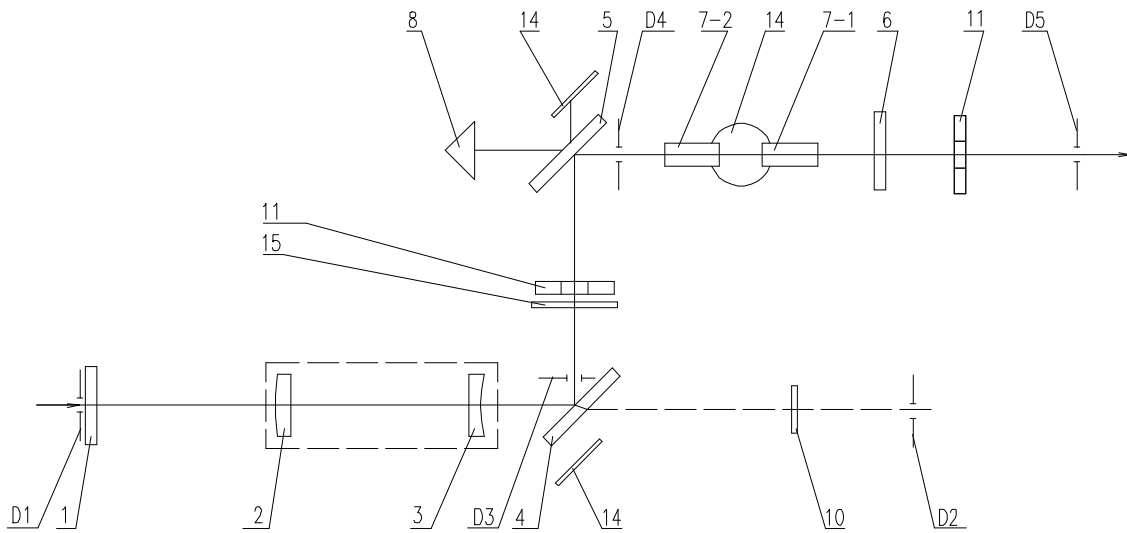
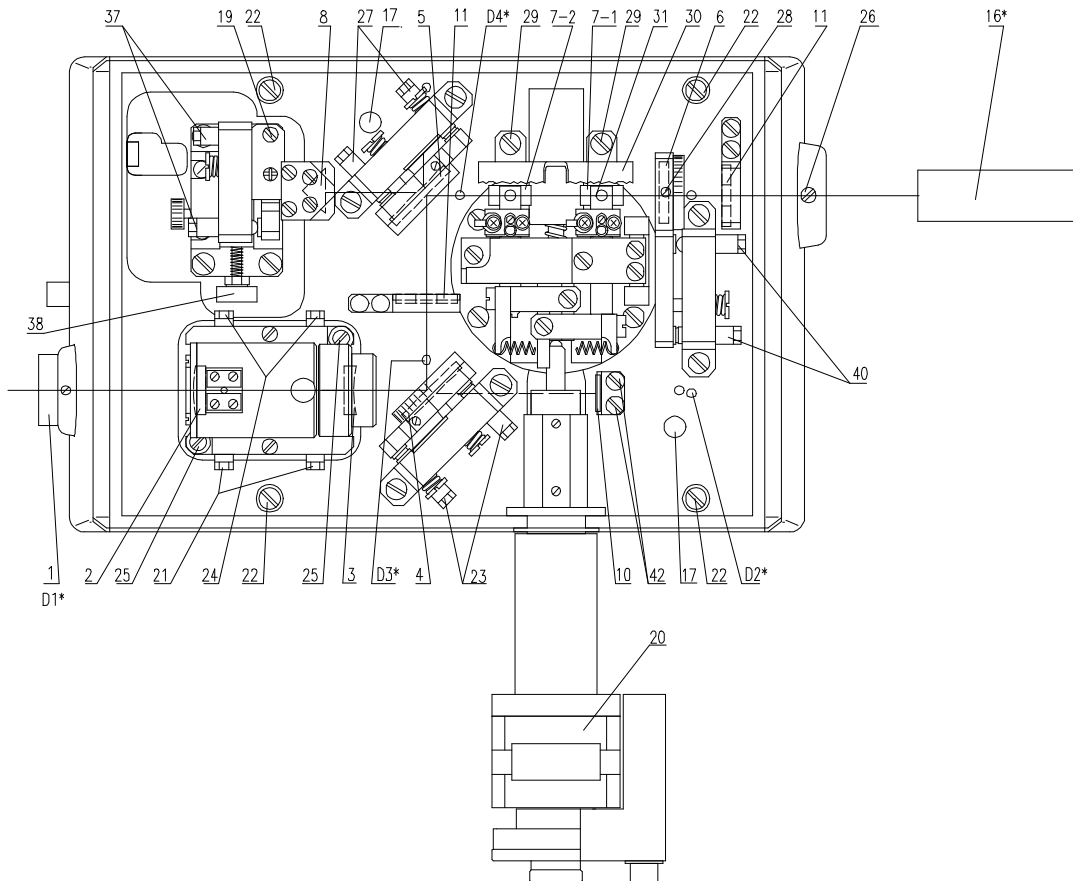

Fig 1. LP 603 Optical Schematic
Fig 2. LP 603 Top View
LP 603 Optic Schematic is shown on Fig.1; Fig.2 shows LP 603 top view. The same elements are indicated by the same positions on both Figures.
When manufactured and adjusted at SOLAR LS, your LP 603 laser has been completed with telescope 1.5^x (lenses 1,2, Fig.2) which provides the optimum conditions for matching the pump laser.
1. Withdraw from the laser housing wavelength separator, output mirror 6 and screen 10 (fig.2) having preliminary released fixing screws 21 (2 pcs), 26, 28 and 42 correspondingly.
3. Insert alignment apertures - D1 into the OPO input window and D2 - according to Fig.2. Adjust the OPO body so that the second harmonic beam travels through the centres of apertures D1 and D2. Use four screws 22 to adjust the height of the OPO body. Secure the OPO to the optical table with screws 17 (available in the spare parts kit).